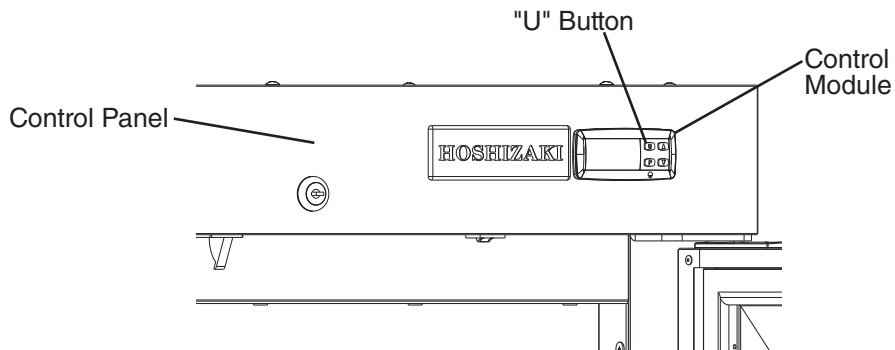

Fig. 6
- 2) Press and hold the "U" button for 1 sec. to turn the appliance off, then unplug the appliance from the electrical outlet. See Fig. 6.